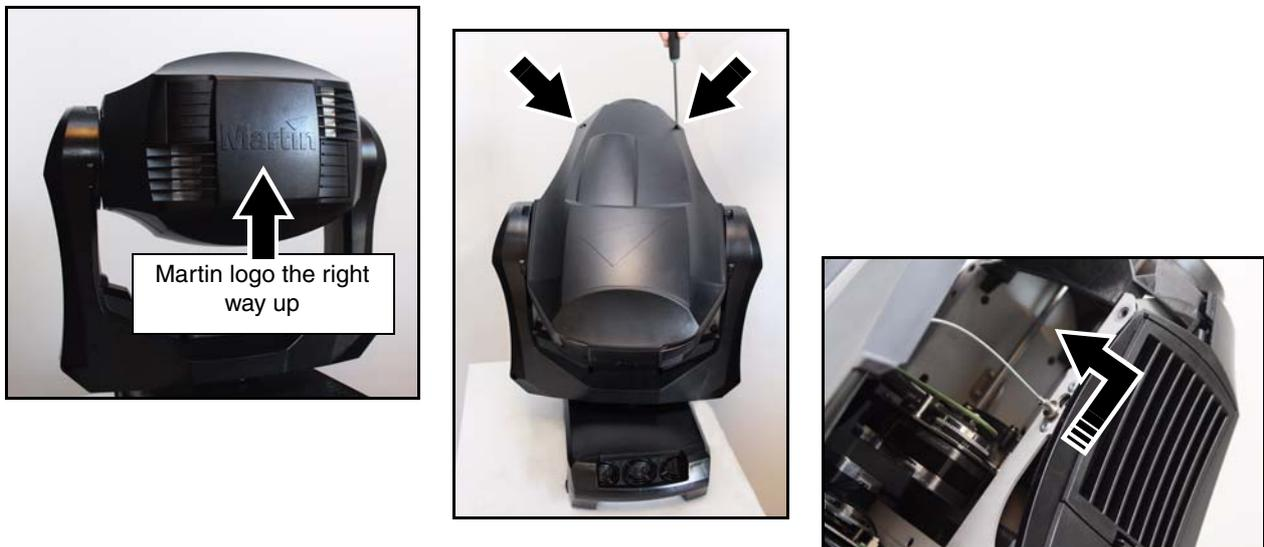

Figure 9: Access to the head for service
3. See Figure 9. Position the head so that the Martin logo on the back of the head is facing the right way up and apply the tilt lock (see Figure 1 on page 6).